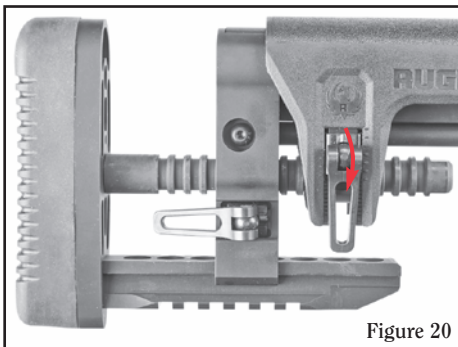

Figure 20
4. Lock the cam lever (see Figure 20).
- Make sure both cam levers are locked (see Figure 20, p. 26).